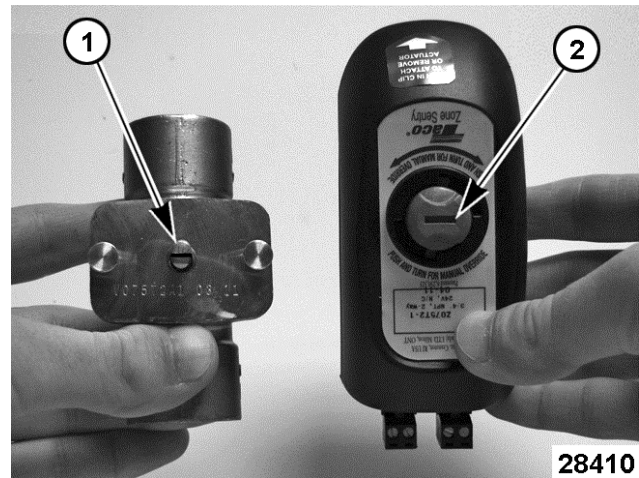

Fig. 67
**NOTE:** When installing motorized control assembly, manually turn flat of "D" shaped stem down to close the drain valve [1] Fig. 67 and align with "D" shape fitting on motorized control assembly [2] Fig. 67. Install motorized control assembly in the closed position (slot in manual knob horizontal). If motorized drain valve is in the open position (slot in manual knob vertical) when power is applied to the steamer and the power switch is on, motorized drain valve will not close and the fill water will flow through the tank and into the drain.